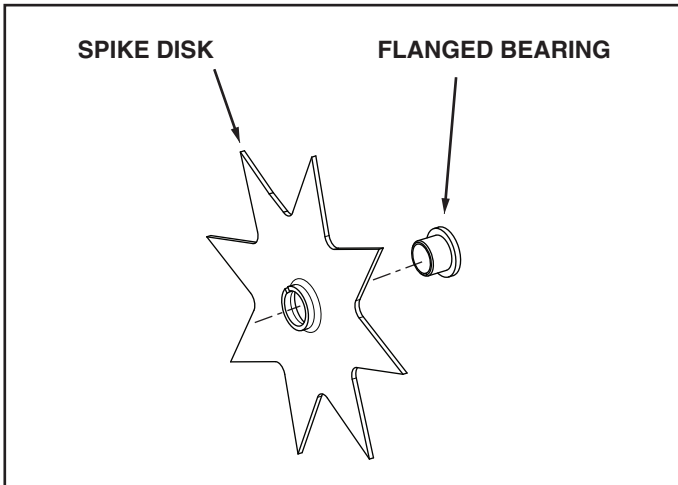

FIGURE 1
2. Press a flanged bearing into each spike disk from the flat side of the disk. See figure 1.